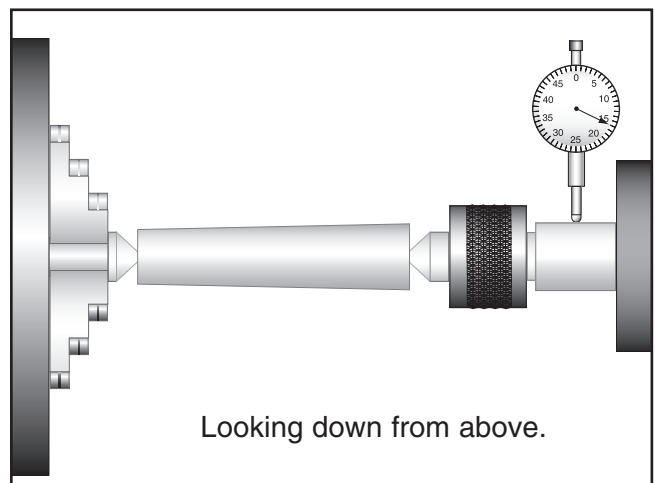

Figure 39. Adjusting for headstock end taper.
6. Mount a dial indicator so that the plunger is on the tailstock quill (see **Figure 39**).
7. Measure the stock with a micrometer. If the stock is wider at the tailstock end, the tailstock needs to be moved toward the front of the lathe the amount of the taper (see **Figure 39**).
The included tool post is a 200 series piston-type quick-change model. The quick-change lock lever allows for one or more tool holders to be quickly loaded and unloaded in two available dovetailed slots. By having extra tool holders and setting the tool height in advance, swapping between tooling is efficient for production-sensitive schedules. When loosened, the mounting hex nut shown in **Figure 39** allows the entire tool post to rotate 360° for angle adjustments.